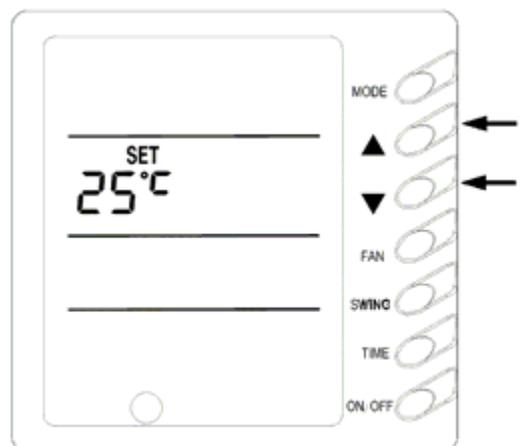

Fig.6
**3) Temperature Setting (Fig.6)**